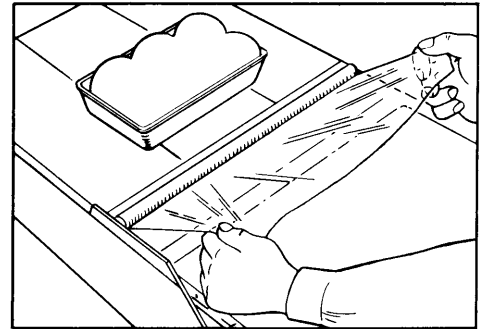

Fig. 4
3. Grasp film with both hands and steadily pull out enough film to fit over package (Fig. 4).